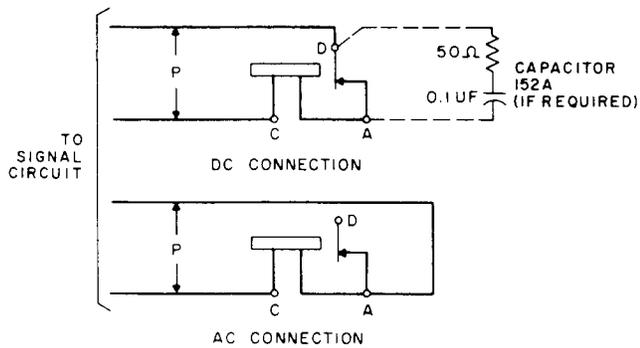

Fig. 23—AC and DC Connections
**6.05** Connect 7-type buzzers or bells as shown in Fig. 23.
**6.06** Where radio frequency induction is caused by a sparking buzzer or bell contact, operating power should be ac and connections should be to the ac terminals. A 152A capacitor should be used across buzzer contacts when power supply is dc (Fig. 23).